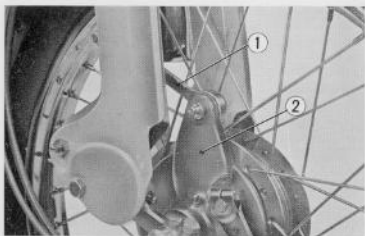

Fig. 4.32 Disconnect front brake torque link
① 36mm hook spanner ② Steering head top thread
3. Place a suitable stand under the engine and remove the front brake torque link ① from the front brake panel ②. (Fig. 4.32)